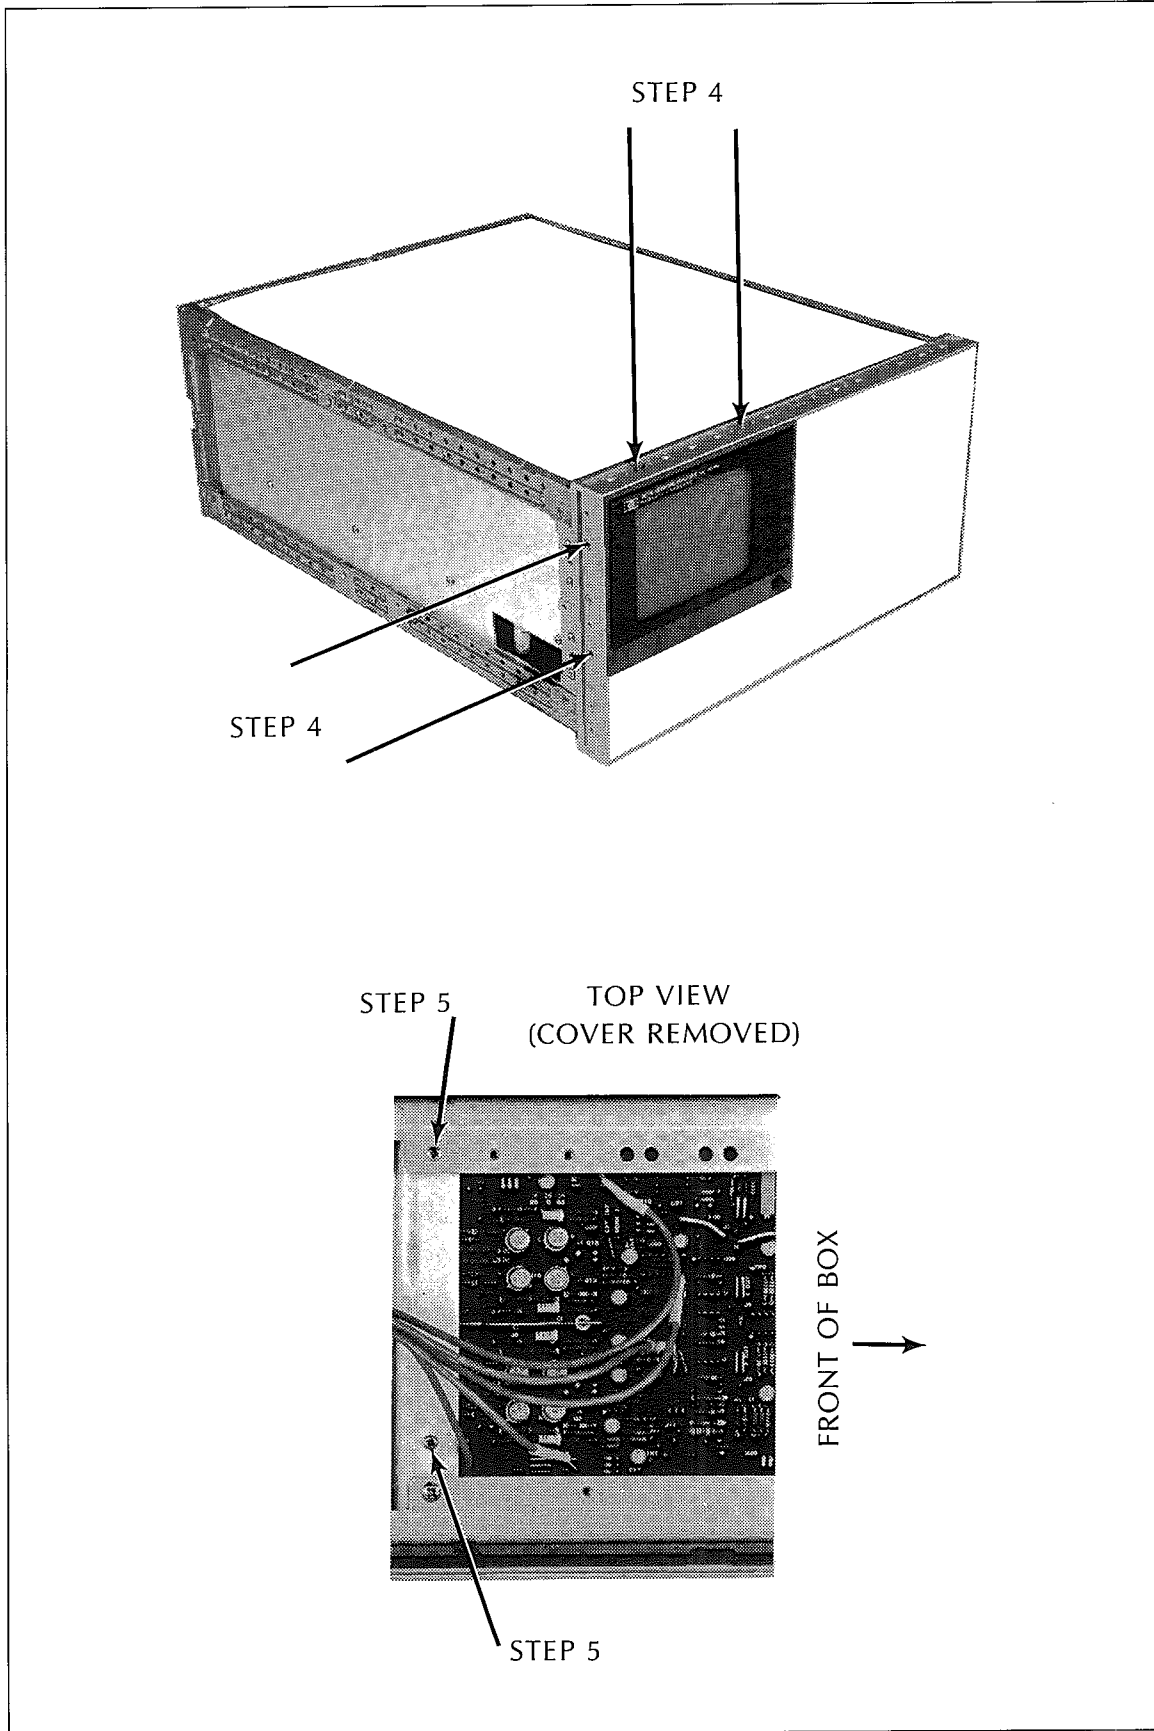

Figure D-2 HP 3562A Removal
4. Remove the front frame and side panel screws as shown in figure D-2.
5. Remove the screws that attach the display to the instrument as shown in figure D-2.